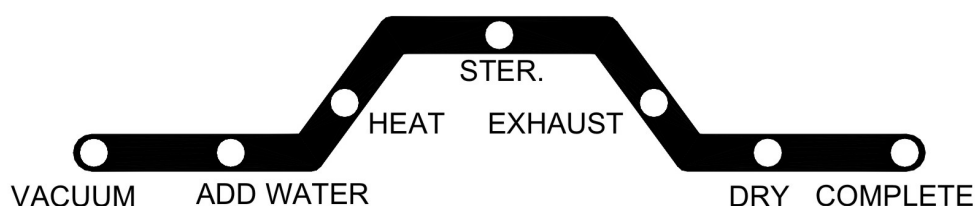

Figure 42
- F. Press the START Button , the setting temperature, duration, and dry time displayed two times on the three-digit display, and then the sterilizer will automatically run through the selected program. The current progress of the sterilization cycle is indicated by the illuminated LED on the Process Status Indicator. (Figure 42).